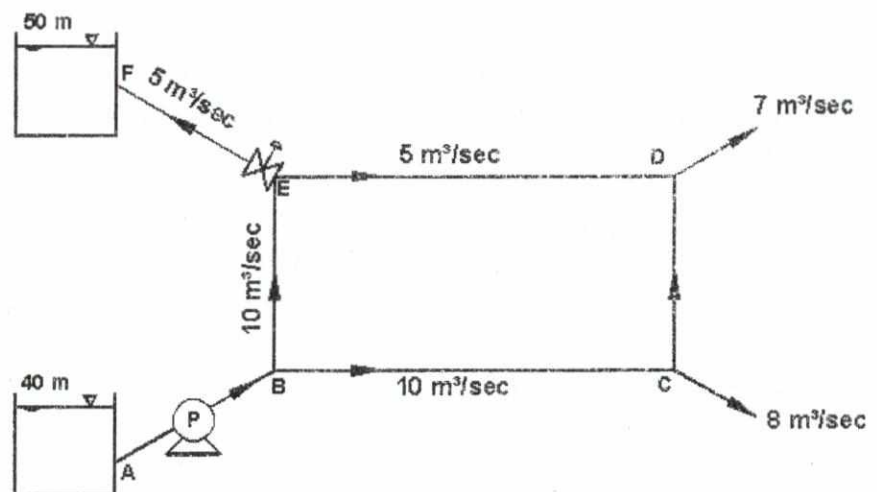

Fig.1
Given the network shown in Fig. 1, representing a pump that delivers water from tank 'A' to the customers at 'C' and 'D' and to fill the tank 'F'. The flow into tank "F" is controlled by valve "V" at the beginning of branch EF, as shown in Fig. 1, where 'r' of the valve equals 2. The total heads in tanks A and F are 40m, and 50 m., respectively, measured from the same datum. The diameters and lengths of the branches are as follows,
- Assume the initial flow rate in the branches is given as shown in Fig. 1 Find the flow rate in each branch after one trial only, and then find the pressure head at point 'D' if the pressure head before the pump immediately is 10m.